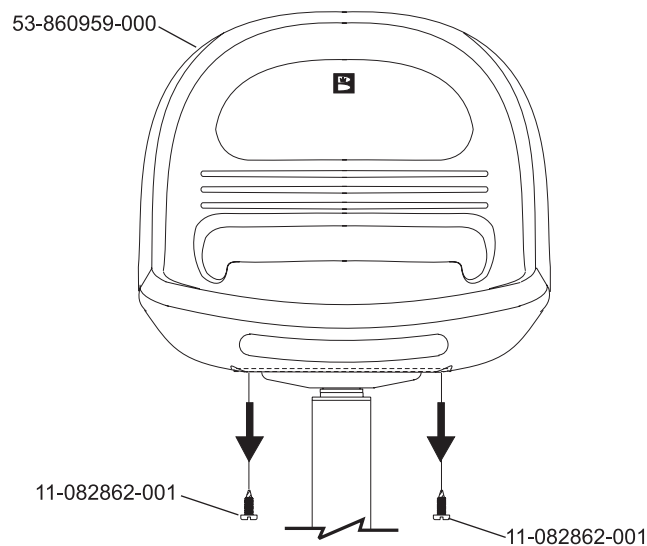

Figure 1
1. Remove the plastic seat, package # 53-860959-000, from the existing seat plate assembly by removing the four self tapping screws, part # 11-082862-001, retain screws for later use. *Figure 1.*